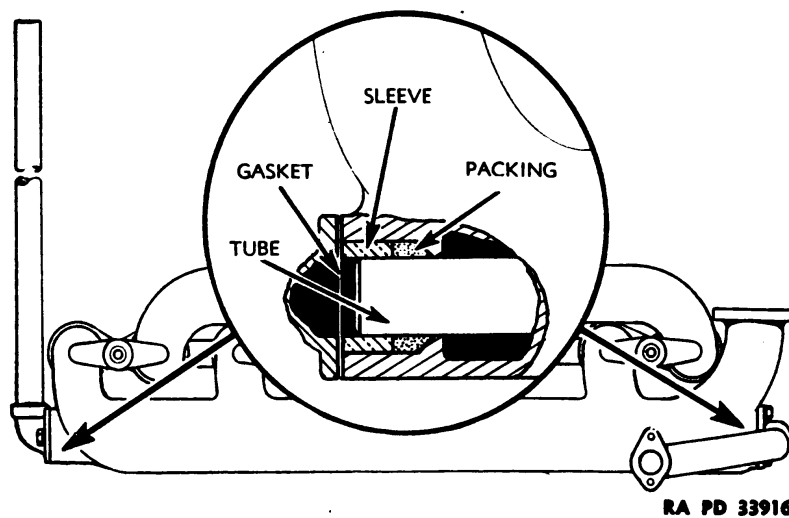

FIGURE 15.—Manifold.
17. Manifold.—*a.* The inlet manifold (fig. 15) for the Diesel engine is heated for starting by the starting engine exhaust passing through a tube inside the inlet manifold.